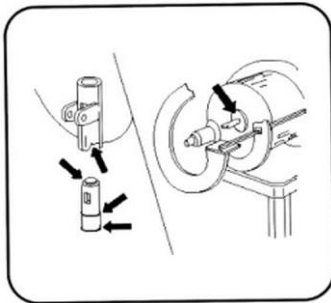

Fig. 14
15. The places marked in Fig. 14 should be moistened with water daily or after each thorough cleaning.